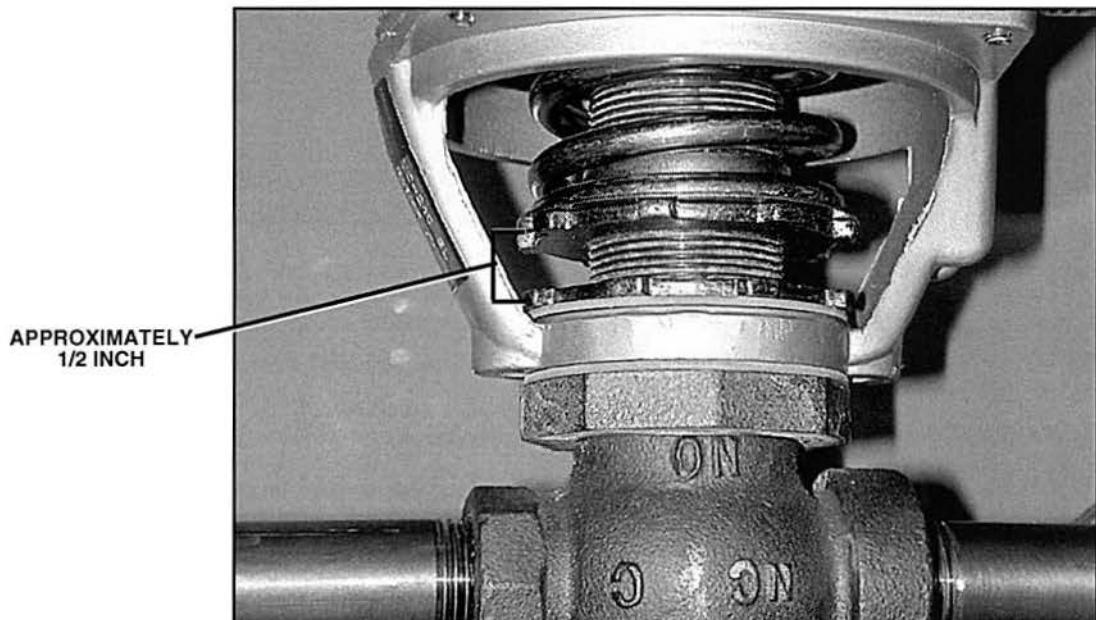

Figure 50. Half-Inch Gap
22. Using your hand or a 1/4-inch wrench, turn the spring adjustor to the right until there is approximately a 1/2-inch gap between the spring adjustor and the yoke, as shown in figure 50.